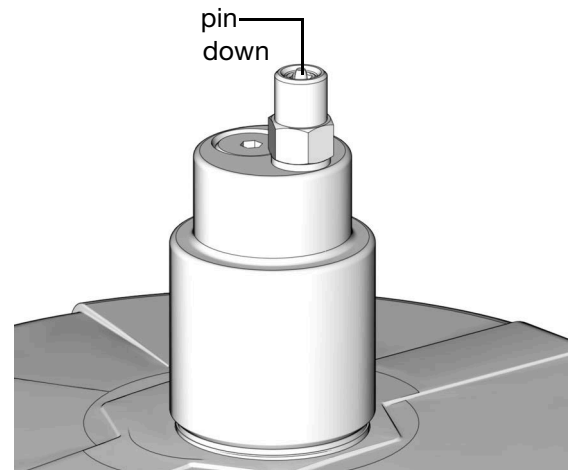

FIG. 27
1. Pull out and hold the Pressure Relief Knob (T) long enough to relieve line pressure between Fill Manifold (N) and Auto-Fill Shut Off Valve (B).
2. Verify the Auto-Fill Shut Off (B) pin is down, indicating it is reset (FIG. 27).